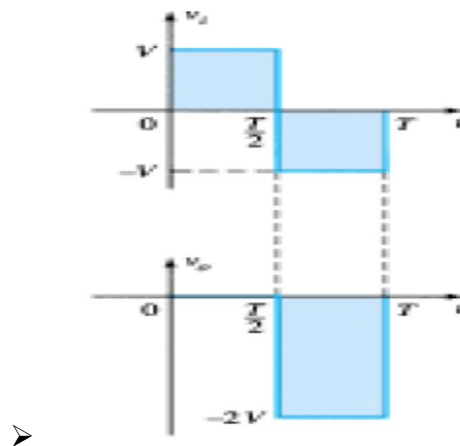

Fig: 36
- The negative sign resulting from the fact that the polarity of $2V$ is opposite to the polarity defined for v_o . The resulting output waveform appears in Fig. 36 with the input signal. The output signal is clamped to 0 V for the interval 0 to $T/2$ but maintains the same total swing ($2V$) as the input.